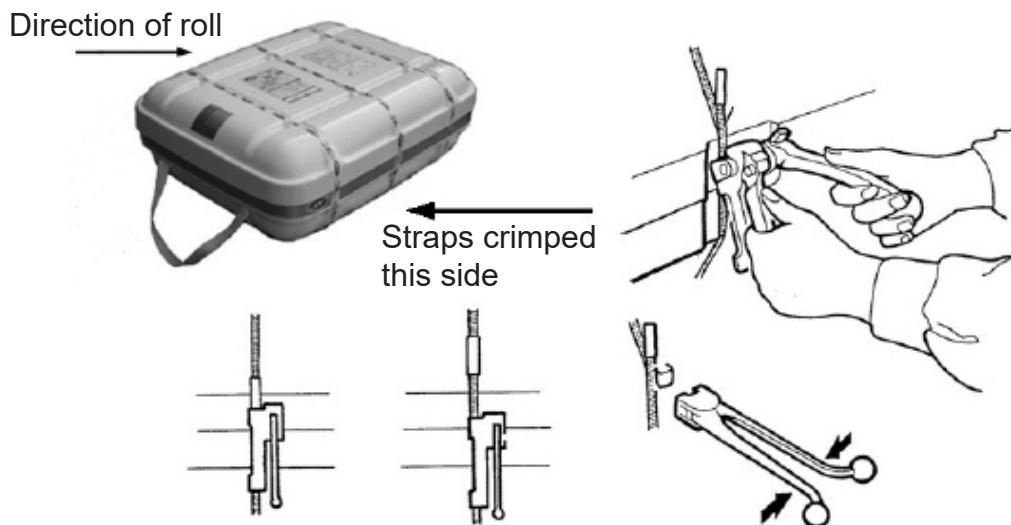

FIGURE A7-27
- 2.67.1 Adjust the ends of each strap so that the outermost strap end is facing upwards and is approximately 25 mm(1") above the rim of the container. Refer to FIGURE A7-27.
- 2.67.2 Apply the tensioning tool to the strap at a point half way across the two rims. Operate the handle to tension the strap until the base of the tensioning tool rests in the lower container rim. Secure the strap with a crimp using the crimping tool. Refer to FIGURE A7-27.